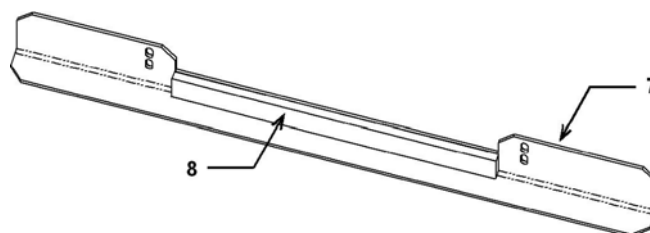

Figure 2. Rear Support Bracket and Foam
- 2 Place one side bracket (2) on each side of the RPM4. Position each bracket with the front panel attachment flange (flange with two holes) facing the front of the RPM4.
- 3 Attach the front panel (1) to the side brackets (2) using four M4 split lock washers (4) and four M4 hex nuts (3). Recommended torque is 3 Nm.
- 4 Remove adhesive backing from foam strip (8). Adhere the foam strip to the rear support bracket (7), centering the foam as shown in figure 2.
- 5 Attach the rear support bracket (7) to the side brackets (2) using four M4 flat washers (6) and four M4 X 12 SHC screws (5). Recommended torque is 3 Nm.
- 6 For adequate support of the RPM4, the rear support bracket (7) shall be supported on the side rails of the rack system or by other means.